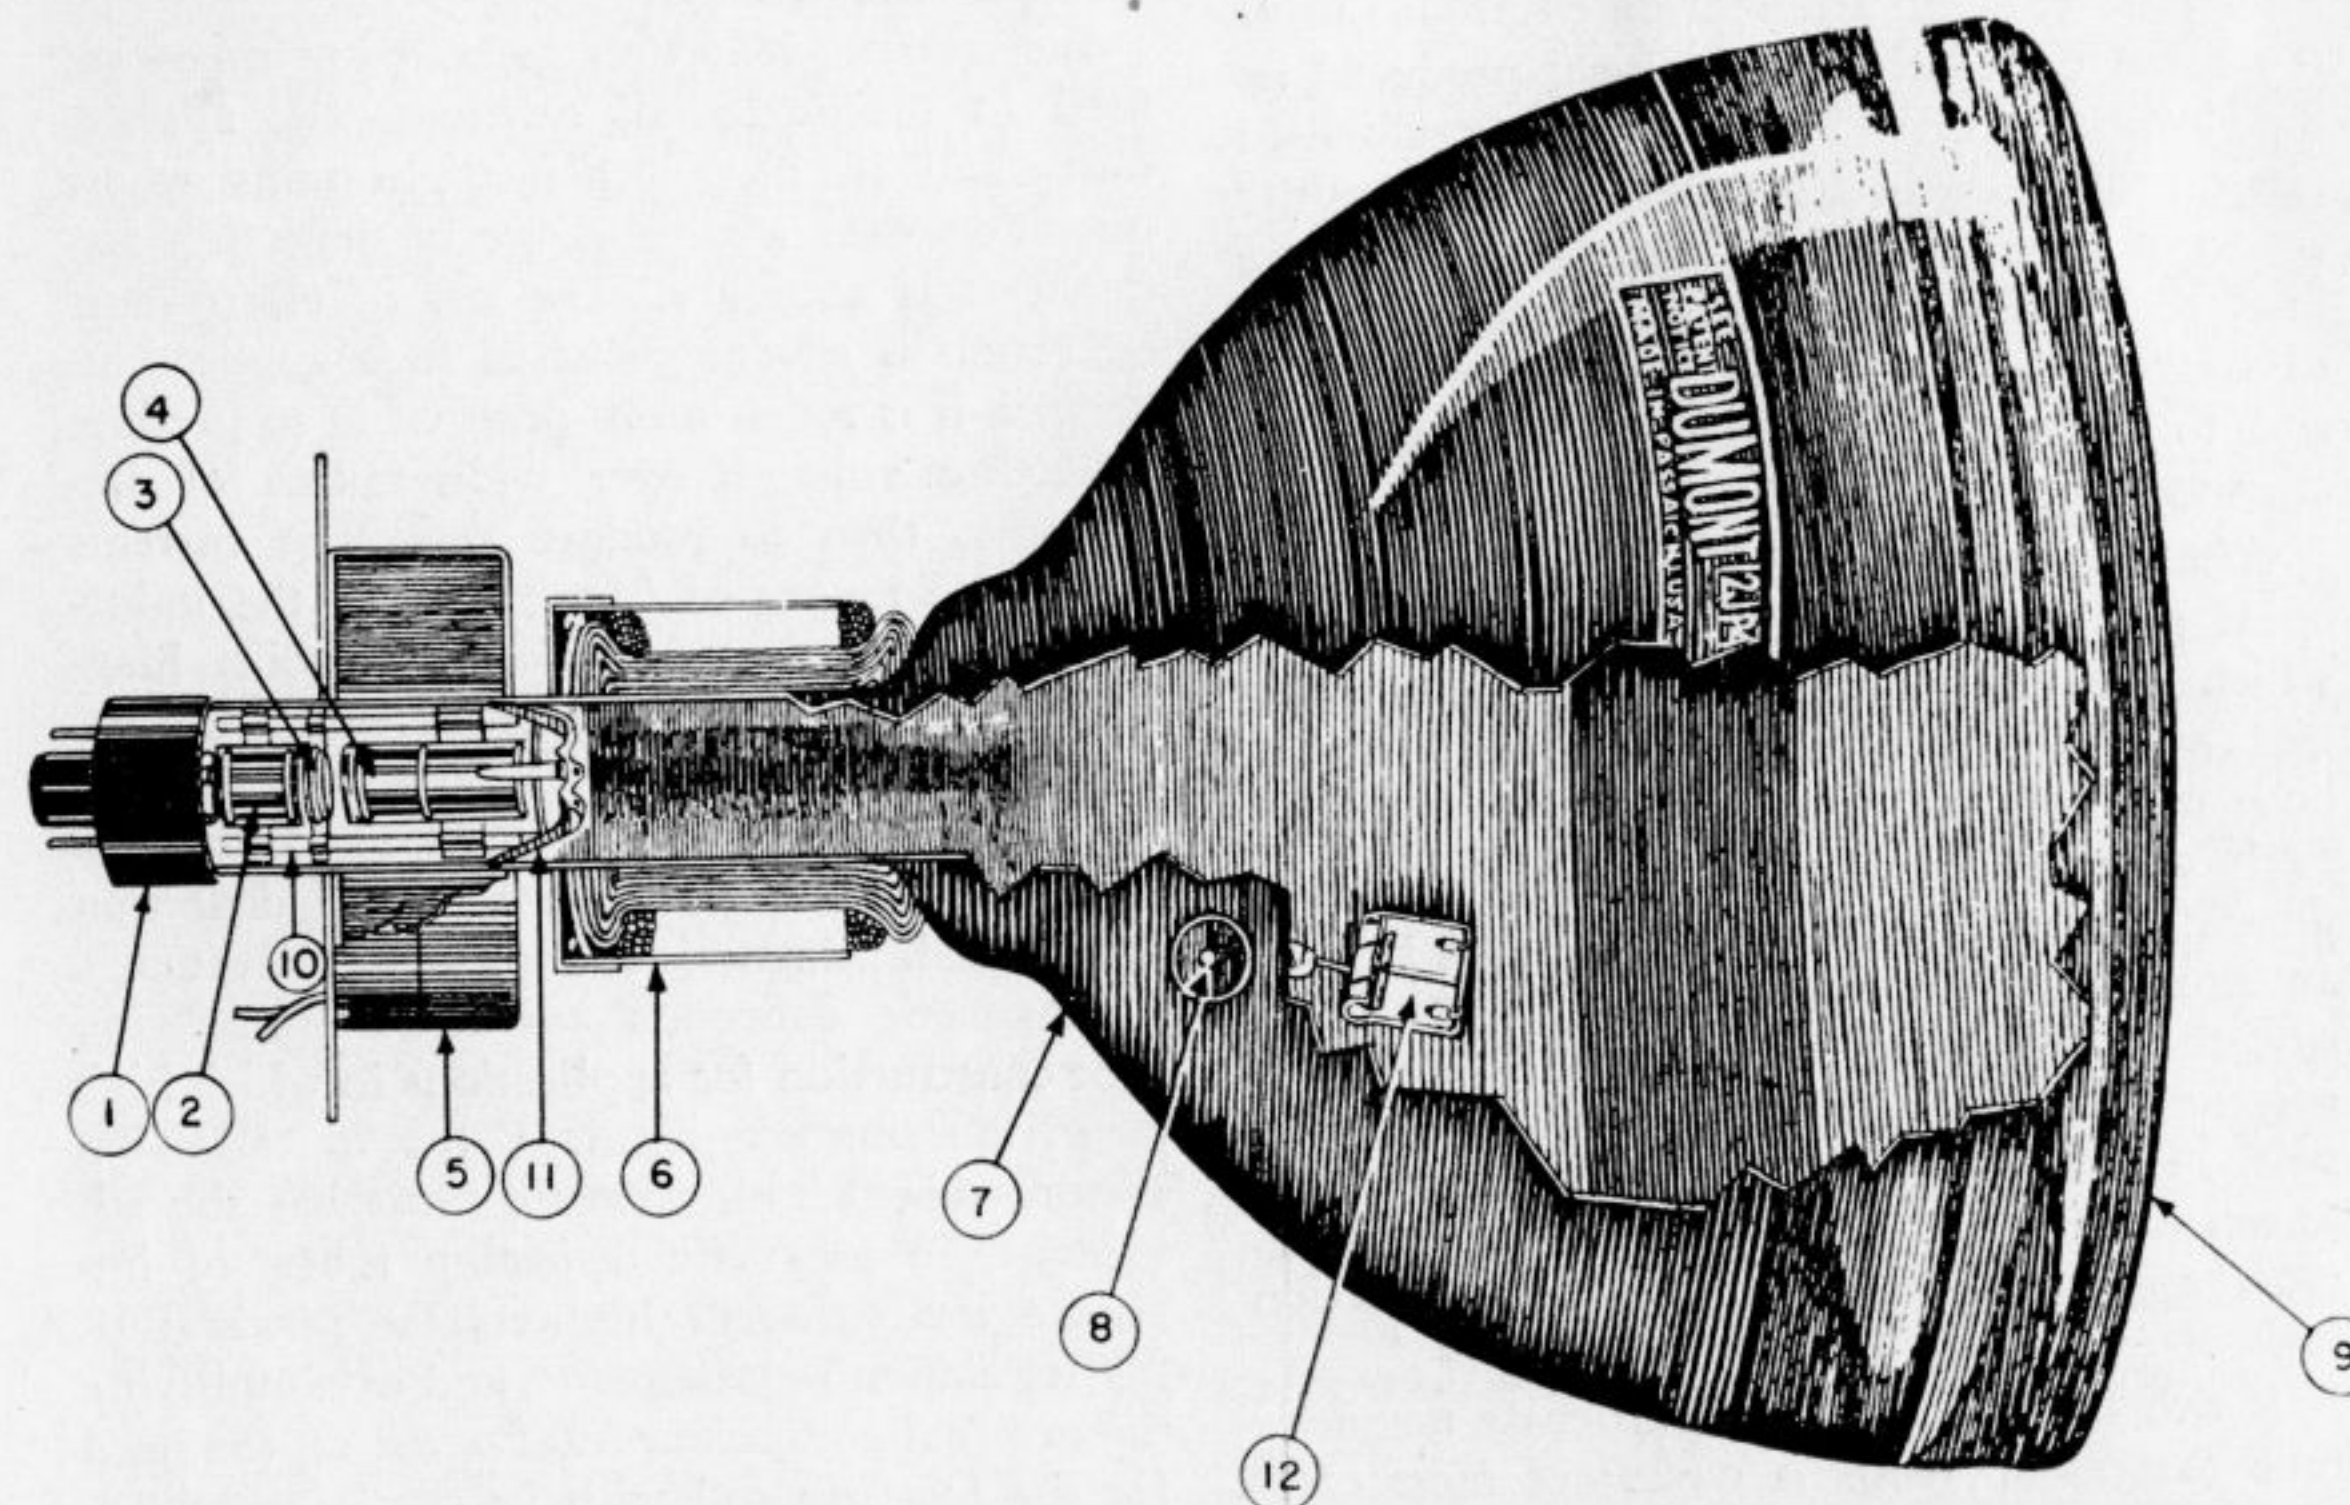

Figure 4. An example of a cathode-ray tube with magnetic focusing and deflection
An outline drawing of a typical magnetic focus and deflection cathode-ray tube is shown in Figure 4. As in the case of the electrostatic tube, a heater element mounted within a cathode sleeve heats the oxide coating on the end of this sleeve, causing electron emission. As in the case of the electrostatic tube, electrons emitted from the cathode are drawn into a narrow beam having a minimum cross-section in the vicinity of the control electrode (2). The beam diverges after leaving the cross-over and, continuing to diverge, passes through the screen grid (3) which is operated at a fixed positive potential (usually about 250 volts), and passes through the accelerating electrode (4) which accelerates the electrons to their final velocity. The beam continues to diverge (though it is made somewhat less divergent in passing through the electrostatic field between the screen grid and accelerating electrode) until it reaches the axial magnetic field produced by the focusing coil (5). This magnetic field acts on the beam in a manner analogous to the action of a lens on a light beam (insofar as the final result is concerned), to cause the beam to converge after leaving the magnetic field, and to arrive at the screen with a minimum cross-section.